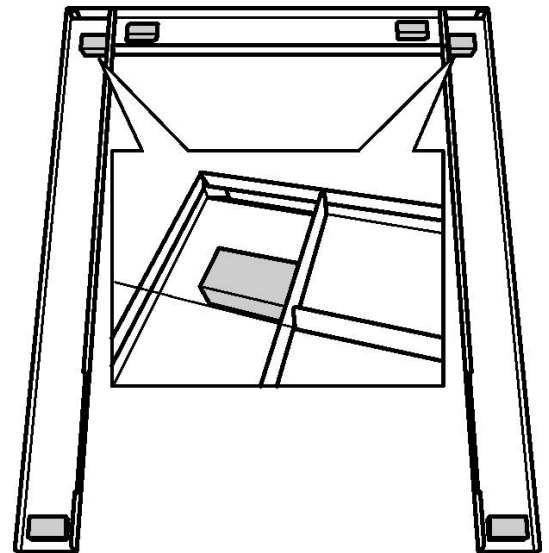

Figure 12.
3. Locate the six magnets on the side trims as in figure 12. Note that bottom edge of the the upper magnets are in line with the bottom of the top trim.